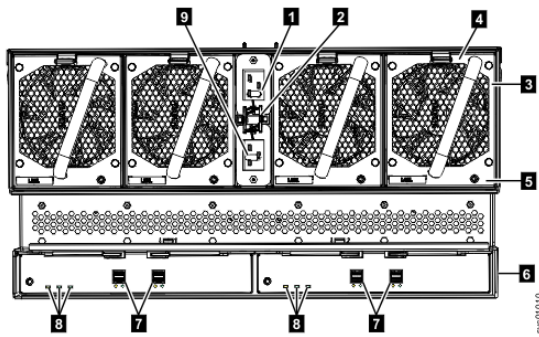
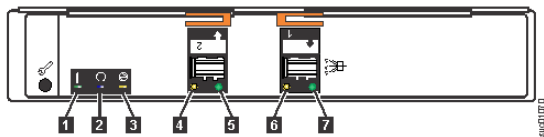

Figure 146. LEDs on the back of the expansion enclosure
Figure 147. LEDs on the back of the expansion canister
Table 19 on page 121 explains the function and status that is indicated by each of the LEDs. The power cords for each PSU are accessible from the rear of the expansion enclosure (1), as shown in Figure 146 on page 123.
Figure 146 on page 123 shows the rear view of a 2145-92F expansion enclosure. LEDs on the rear of the enclosure provide information about each fan module, each expansion canister, and SAS links.
The expansion enclosure has four fans. Each fan has one LED; for example, Figure 146 on page 123 shows the location of the LED (5) for fan number four. When a fan is operating normally, the LED is not lit. If a fault is detected, the amber LED is lit.
As Figure 146 on page 123 also shows, the expansion enclosure contains two expansion canisters. Each expansion canister contains its own set of LEDs, as shown in Figure 147 on page 123. The LEDs provide status information about the expansion canister itself and the SAS connections.